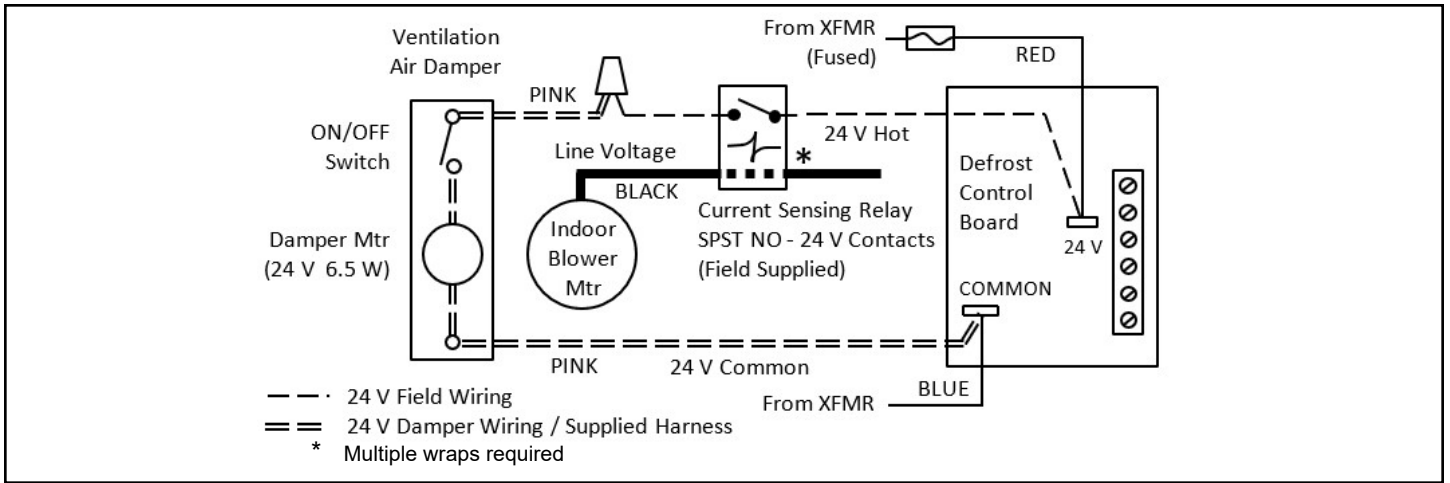
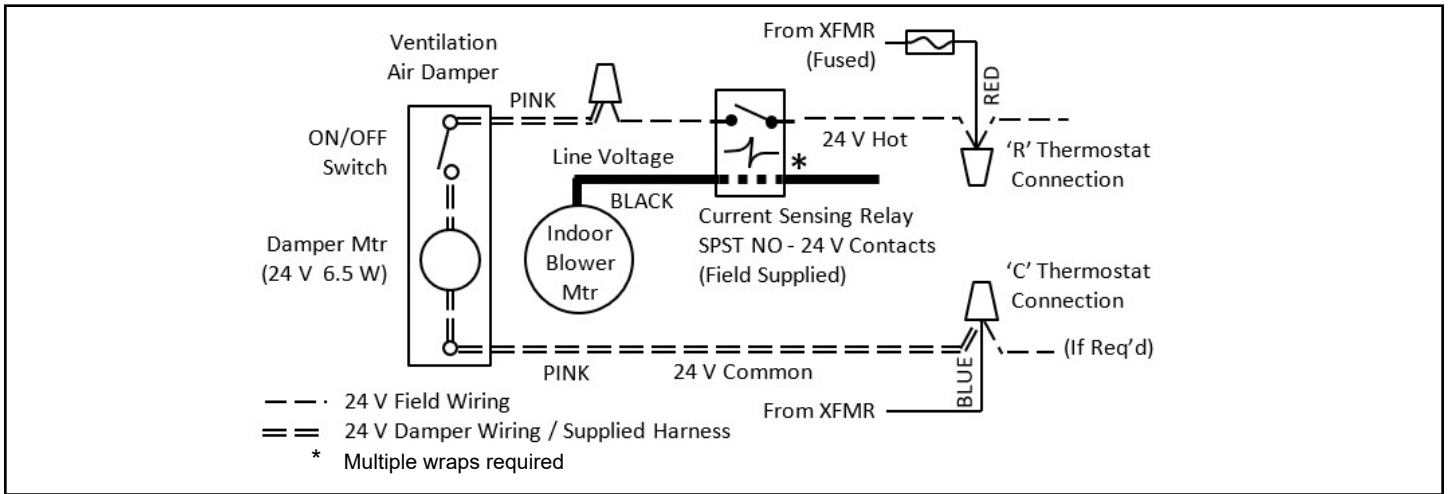

Figure 6. MHP Ventilation Air Damper Wiring
Figure 7. MCE Ventilation Air Damper Wiring
9. Install field-supplied current sensing relay and associated wiring. Depending on the relay applied, the blower wire may need to be wrapped multiple times through the relay's sensing opening. Secure relay and wiring to ensure they will not interfere with indoor blower operation (see Figure 6 for MHP or Figure 7 for MCE)